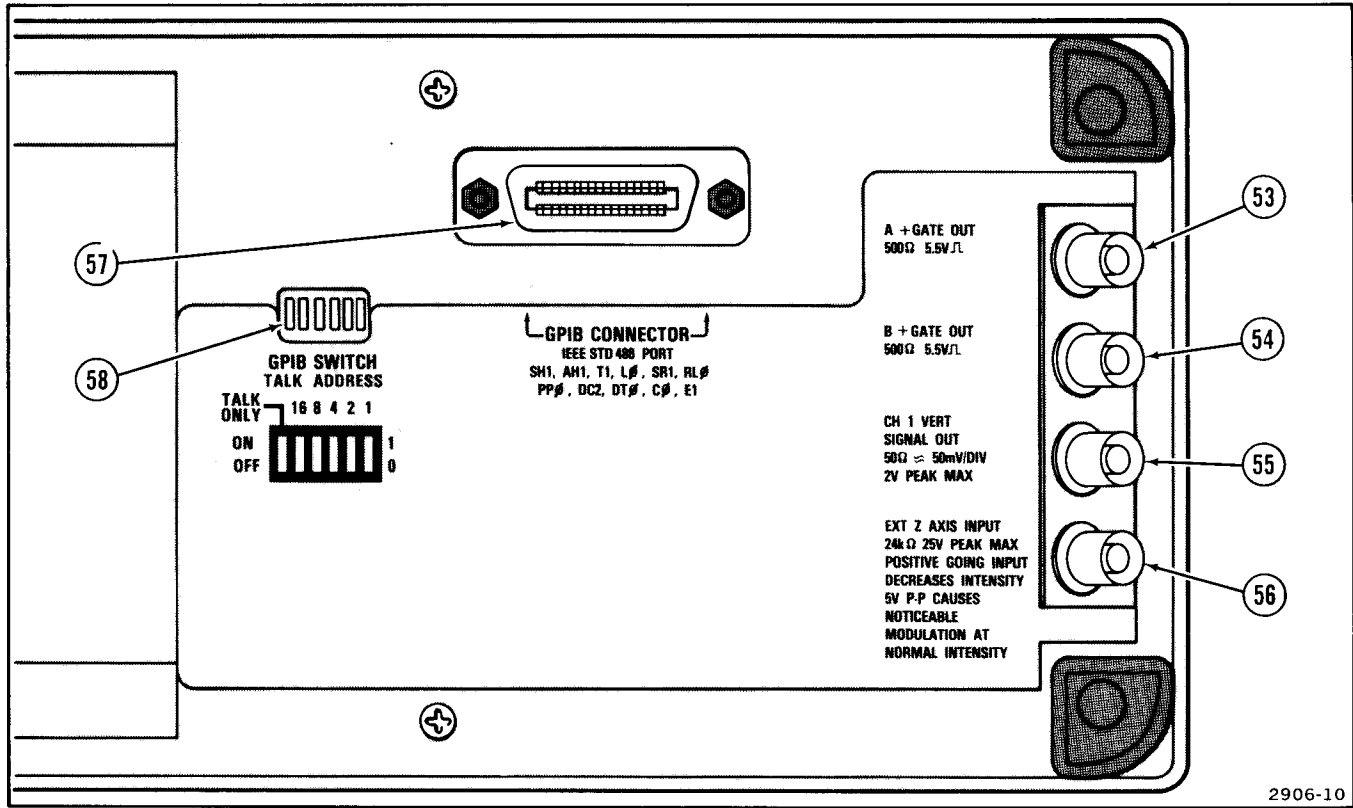

Figure 10. Rear panel controls and connectors.
Refer to Figure 10 for location of items 53 through 58.